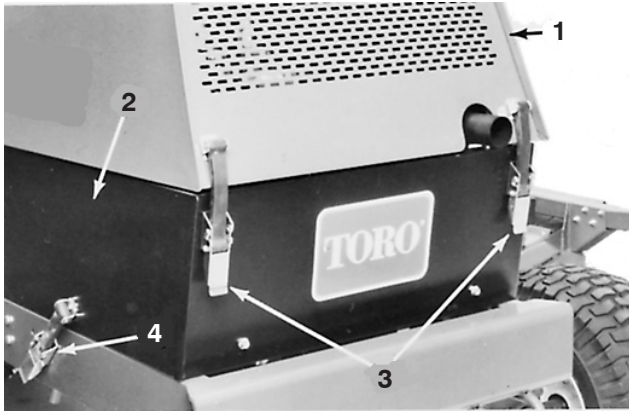

Figure 26
1. Unlatch, raise and prop engine hood open and remove left side panel (Fig. 26).